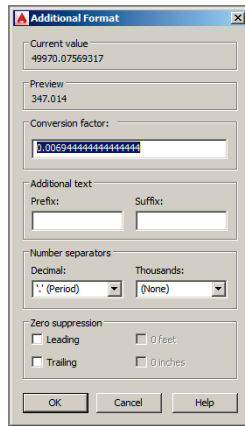

FIGURE 15.24 Converting units in the Additional Format dialog box
- ▶ In Imperial units, remove the SQ. FT. text from the Suffix text box and type **1/144** in the Conversion Factor text box to convert from square inches to square feet. Click OK and the fraction is converted to decimal form (see Figure 15.24). Click OK again.